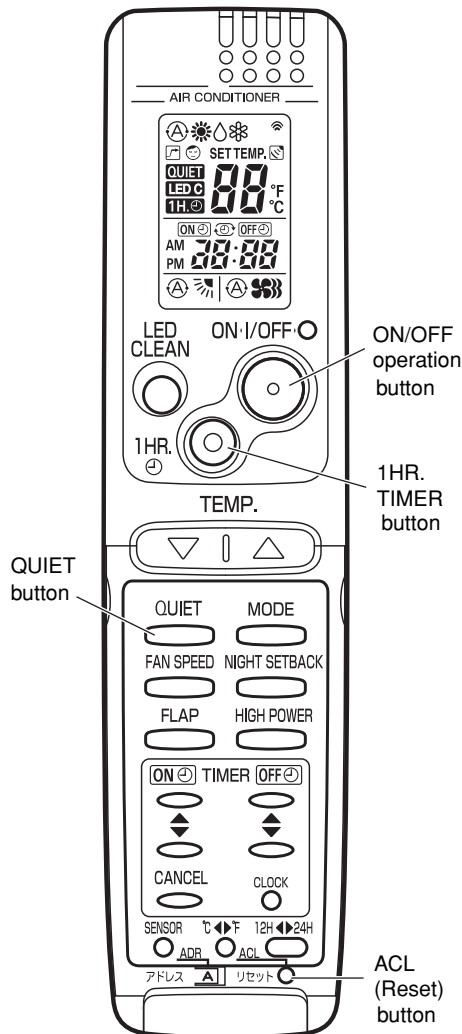

Fig. 59a-1
(3) Press the ON/OFF operation button of the remote controller again to stop the test run. (Fig. 59a-1)
(4) Finally press the ACL (Reset) button of the remote controller to release it from Test Run mode to return to normal mode. (Fig. 59a-1)